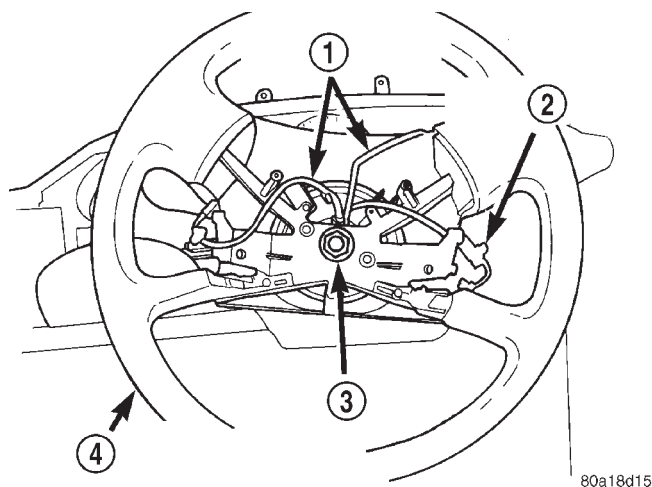

Fig. 15 Steering Wheel Attaching Nut
(16) Turn the lock cylinder to the OFF position and remove the key from the lock cylinder.
(17) Turn the steering wheel to the left 1/2 a turn (180°) (Fig. 15) until the steering column lock is engaged.
(18) Remove the steering wheel attaching nut (Fig. 15) from the steering column shaft.